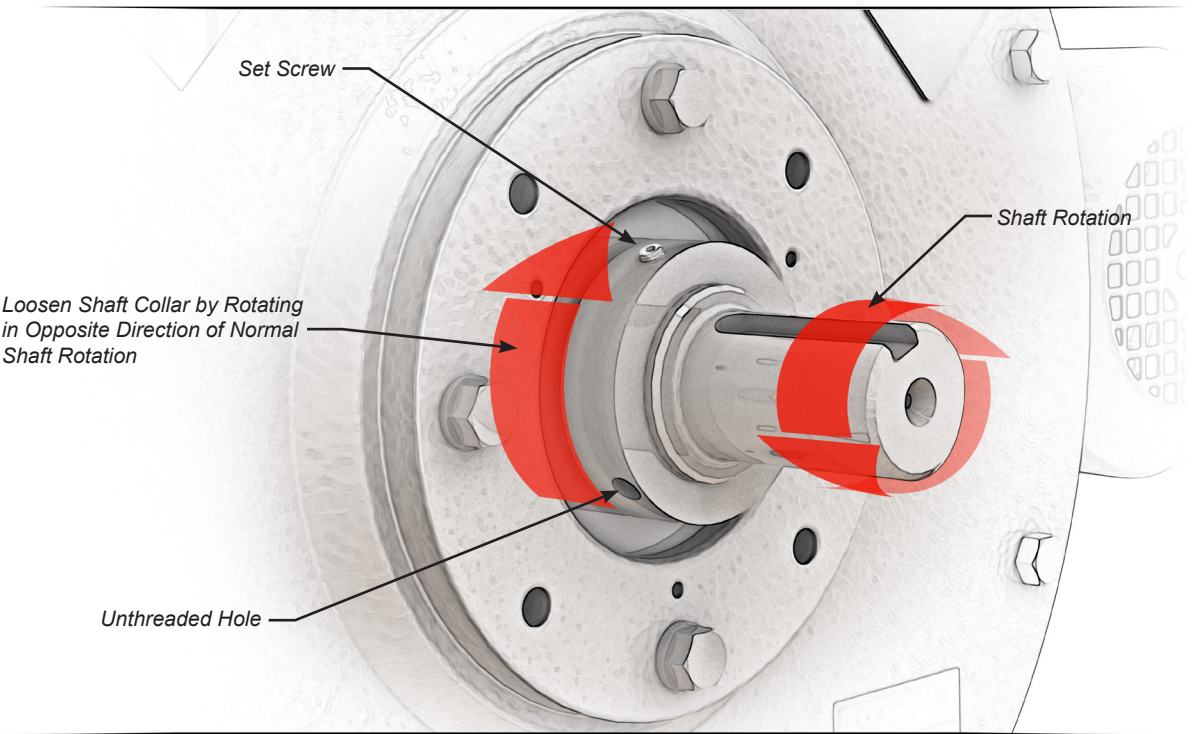

FIGURE 9.2
- 8. Disengage bearing lock collar from bearing by turning it using a punch and hammer. Loosen by rotating the collar in the direction opposite of normal shaft rotation (Figure 9.2).
7. Disengage bearing lock collar from bearing by turning it using a punch and hammer. Loosen by rotating the collar in the direction opposite of normal shaft rotation (Figure 9.2).